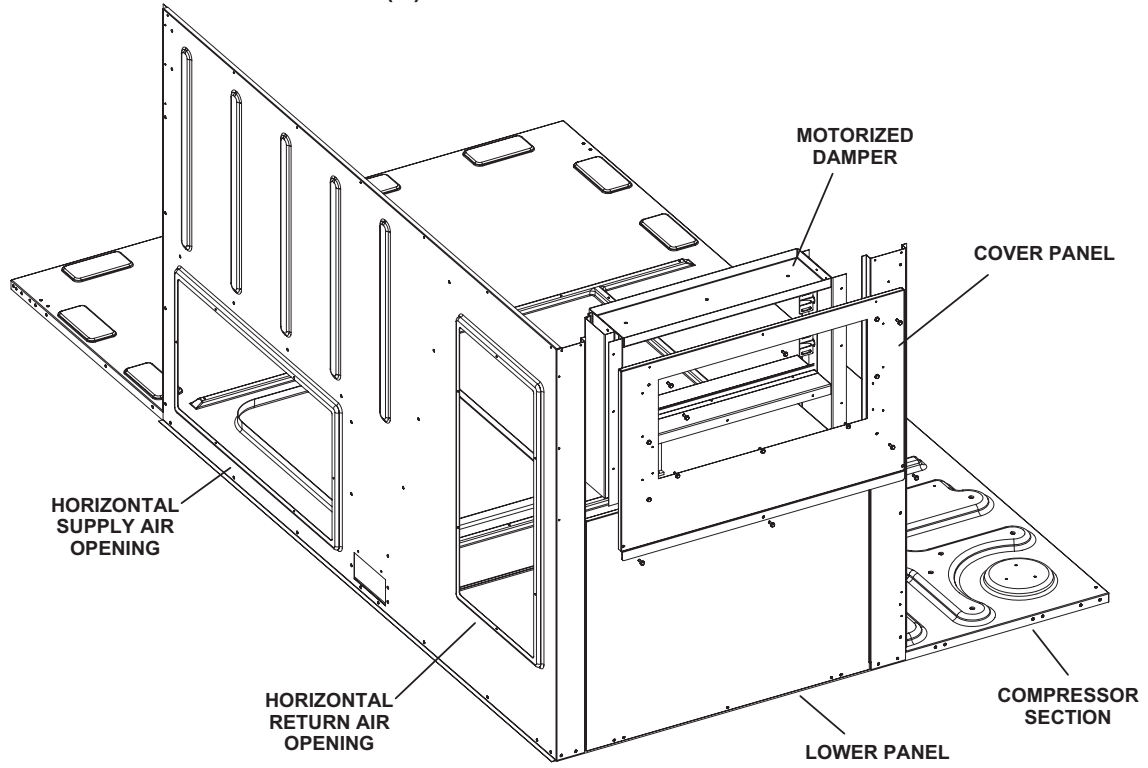
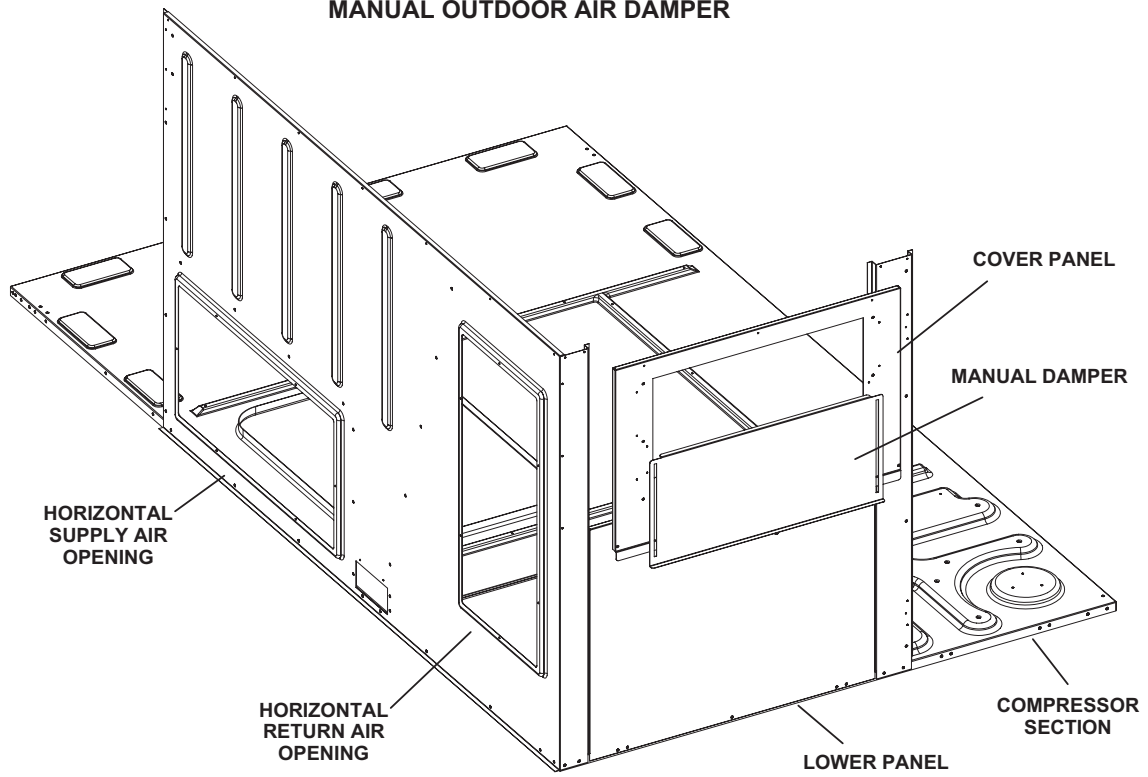

FIGURE 17
FIGURE 18
LOAD(M) consists of a set of dampers which may be manually or motor (M) operated to allow up to 25 percent outside air into the system at all times (see FIGURE 17 and FIGURE 18). Either air damper can be installed in LCT units. Washable filter supplied with the outdoor air dampers can be cleaned with water and a mild detergent. It should be sprayed with Filter Handicoater when dry prior to re-installation.